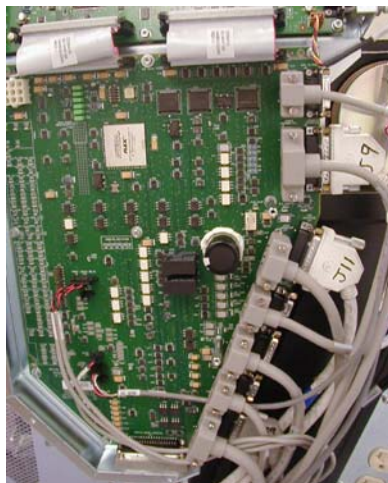

Figure 3-10 Gantry MSUB
- 1.) Locate the gantry MSUB. See Figure 3-10.